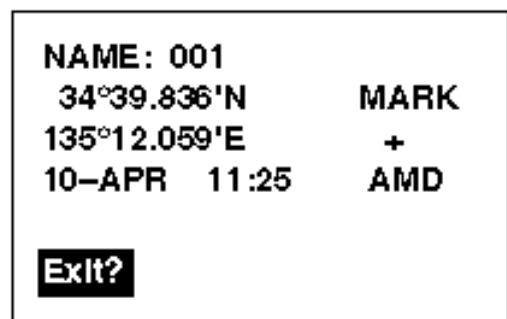

Figure 4-19 Waypoint screen
**Note:** If the name selected at step 8 has not been used, the window shown in Figure 4-19 appears. Select “CREATE?” or “RENAME?” as appropriate and press the [ENT] key.